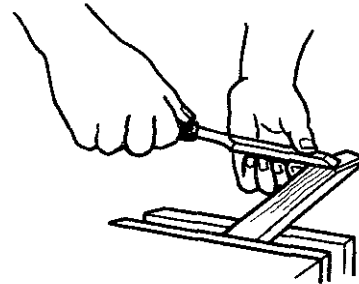

Fig. 9-26 Cutting a chamfer on end grain.
2. Hold the chisel bevel side up, figure 9-26.